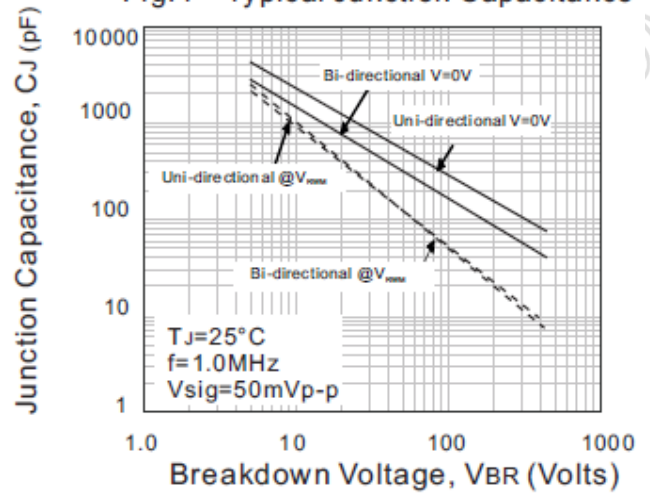

Fig.5 - Steady State Power Derating Curve
2. Mounted on copper pad area of 0.2"x0.2" (5.0x5.0 mm) per fig. 5